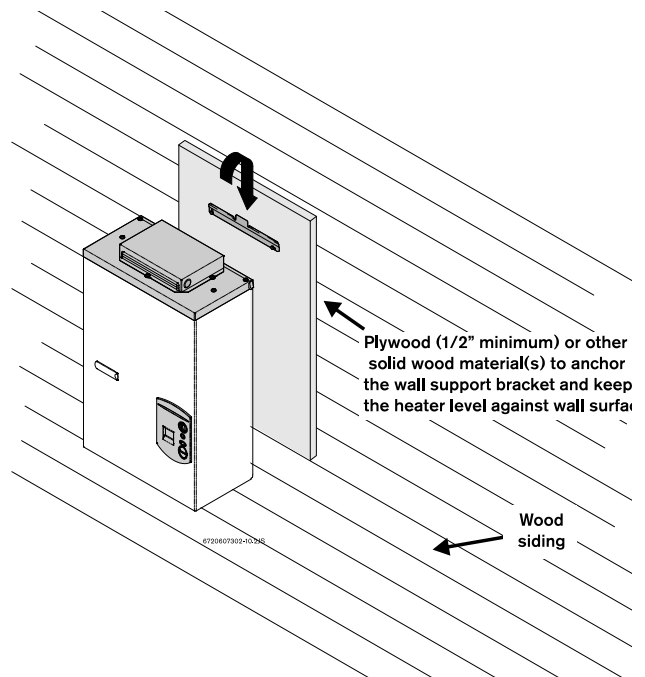

Fig. 9
- ▶ The water heater is design certified for mounting on a wall. Secure the wall mounting bracket provided with the water heater to a wall surface. See Fig. 9.